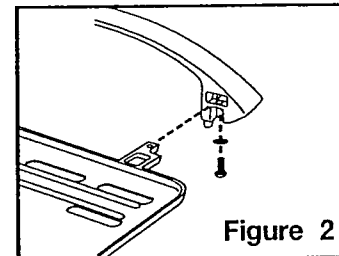

Figure 2
3. Place Locking Washer over threaded end of screw. Use a Phillips screwdriver to attach Handle to Cooking Plate using Screw and Locking Washer. See Figure 2. Hand tighten screw until it reaches a definite stop. Repeat for Handle assembly on opposite end of Cooking Plate.